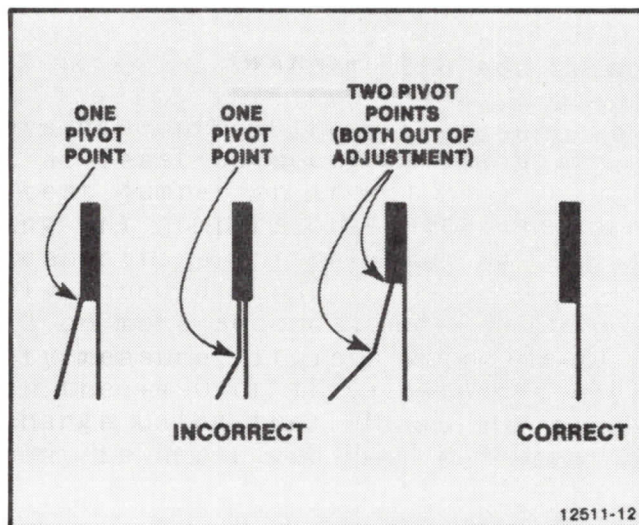

Figure 10-21. X and Y Axis Frequency Compensation Adjustments.
2. Adjust R51 and R150 on the Deflection Amplifier board so that only one line can be seen. See Figure 10-21.
4. Adjust R69 and R167 on the Deflection Amplifier board so that only one line can be seen. Refer to Figure 10-21.